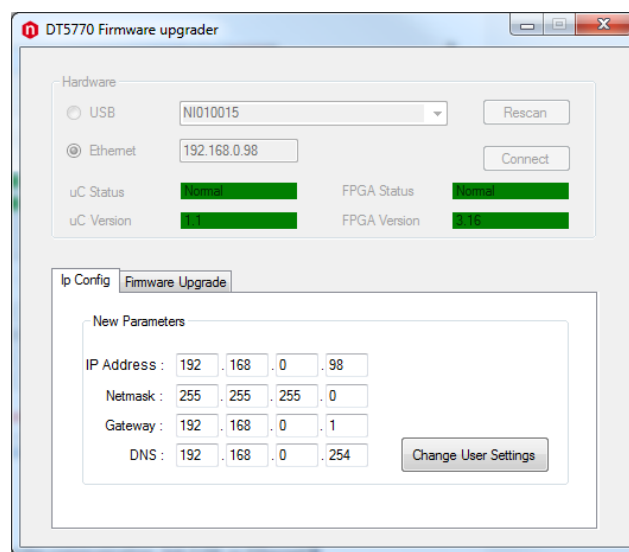

Fig. 12.3: Board information
5. The device status and firmware version of the internal microcontroller and FPGA are retrieved and visible in specific green active boxes (see Fig. 12.3).